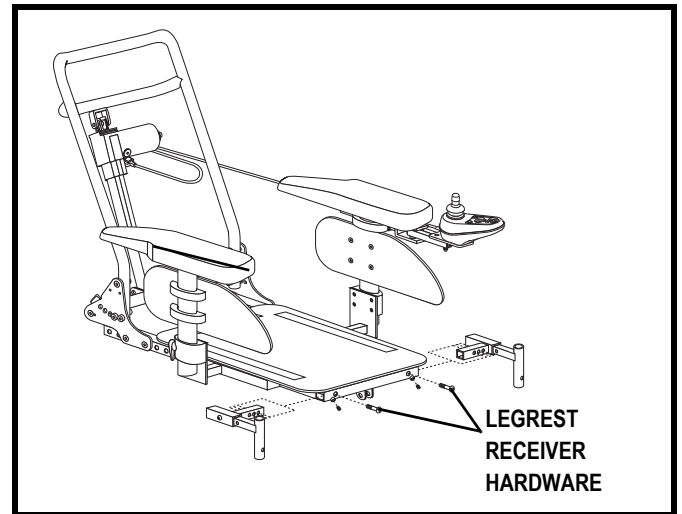

Figure 15. Leg Rest Width Adjustment
2. Loosen the leg rest receiver hardware. **See figure 15.**